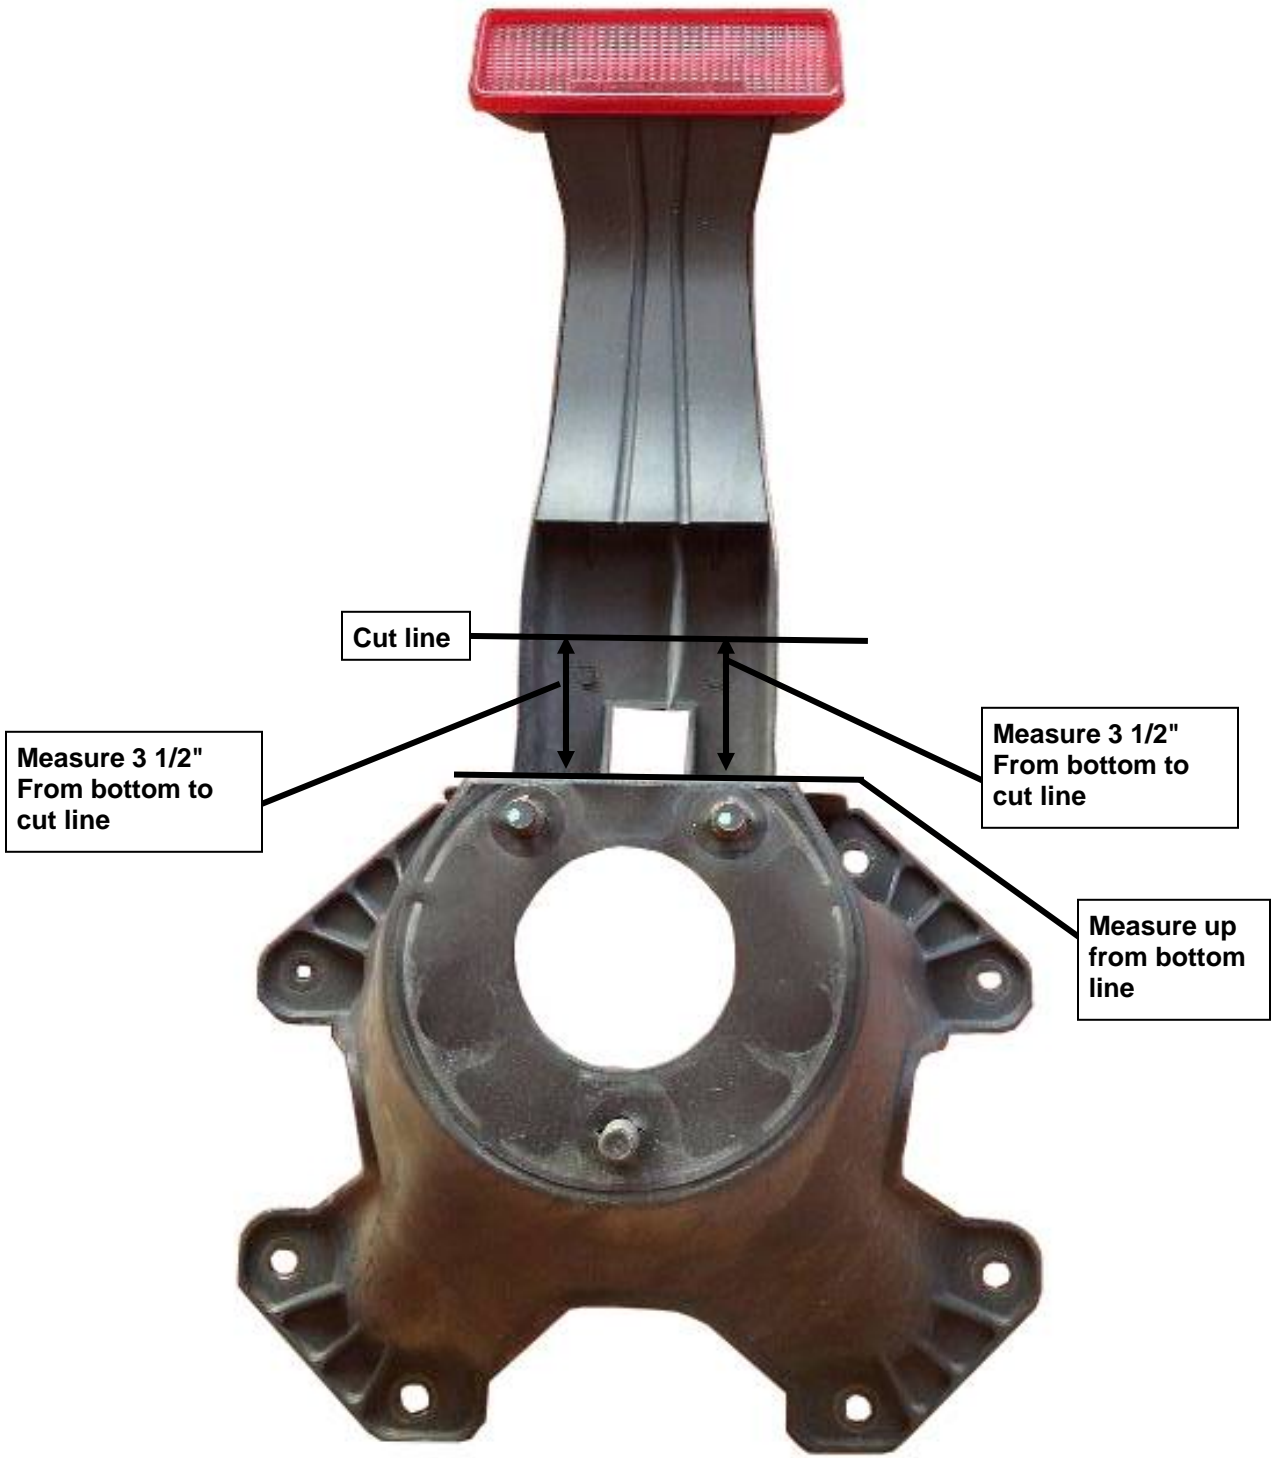

Fig 6
4. Once carrier is separated select the new 3rd brake light bracket and place it into place coupling the rear of carrier, the edge of the bracket should sit flush with the edge of the carrier as seen in (**Fig 6,7&8**) taking note of the alignment, mark holes through the bracket to the carrier for drilling the (4) holes on the bottom (use a 3/8" size drill bit) with these holes drilled it is easier to attach (2) of the 8mm hex bolts (4) 8mm washers & (2) 8mm hex nuts snug but do not tighten for the measuring of the top holes to be drilled.